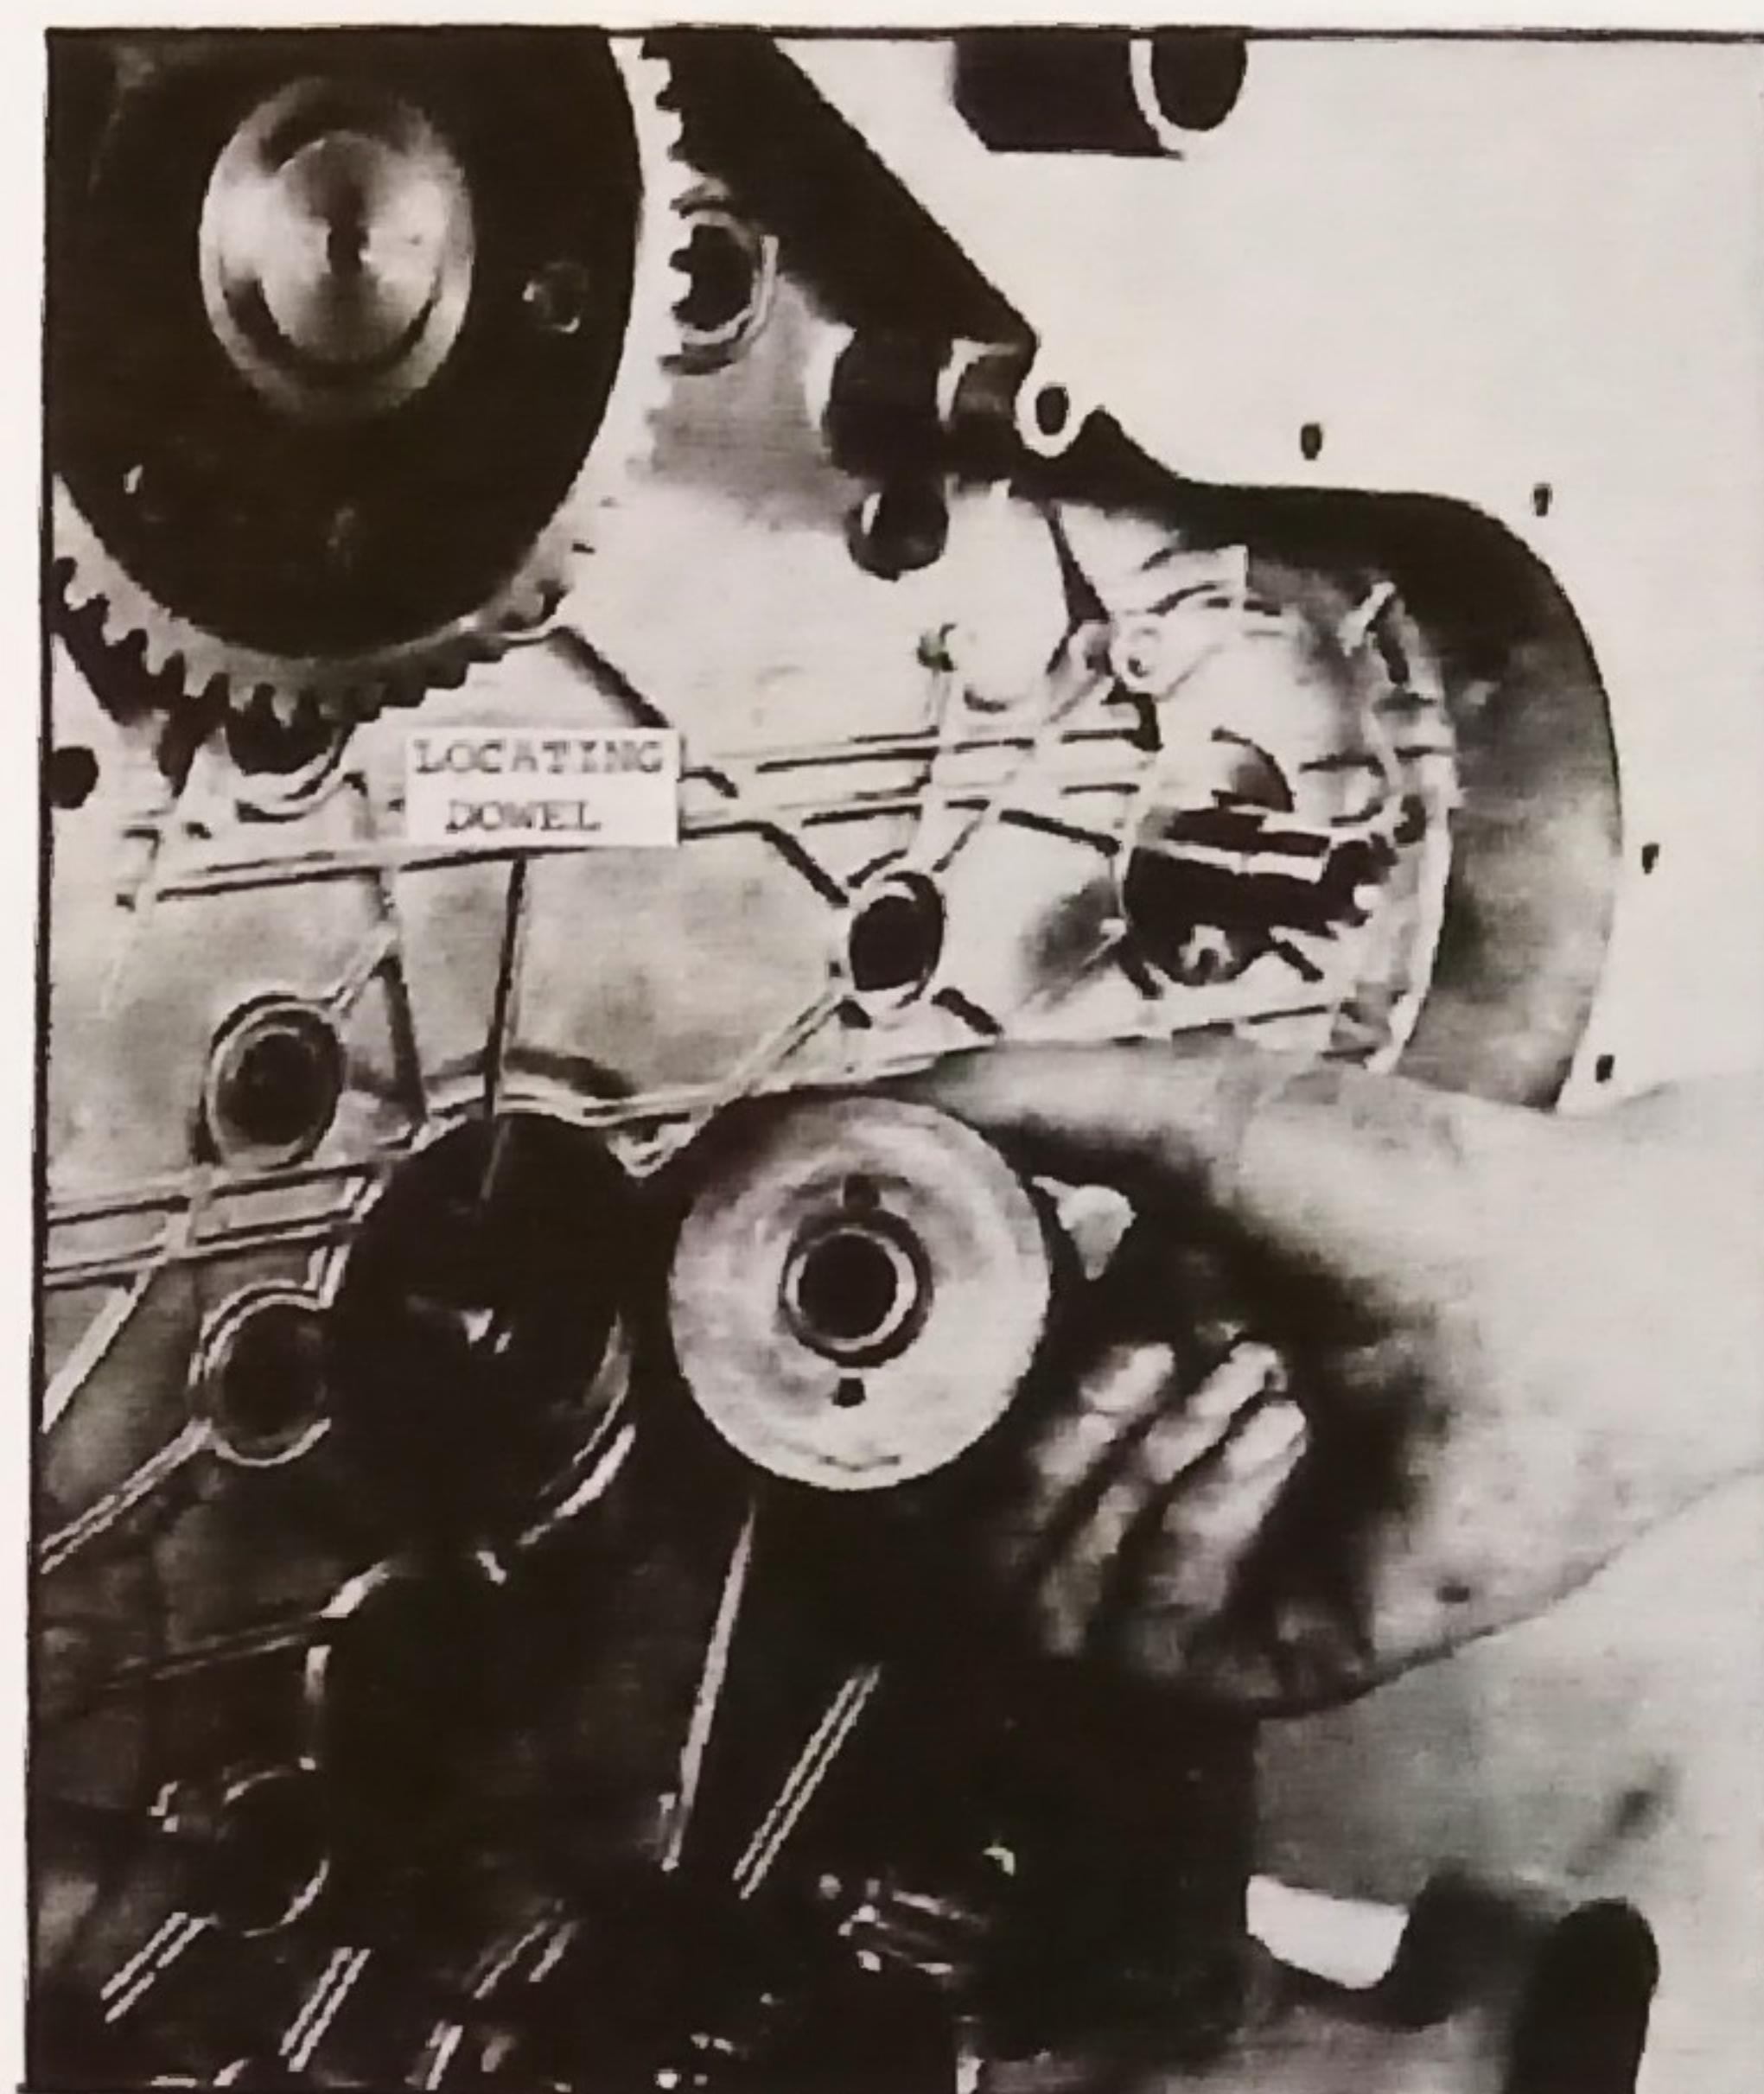

Fig. 40 - Removing or Installing Idler Gear Hub
3. Remove idler gear hub from its machined location as shown in Fig. 40.